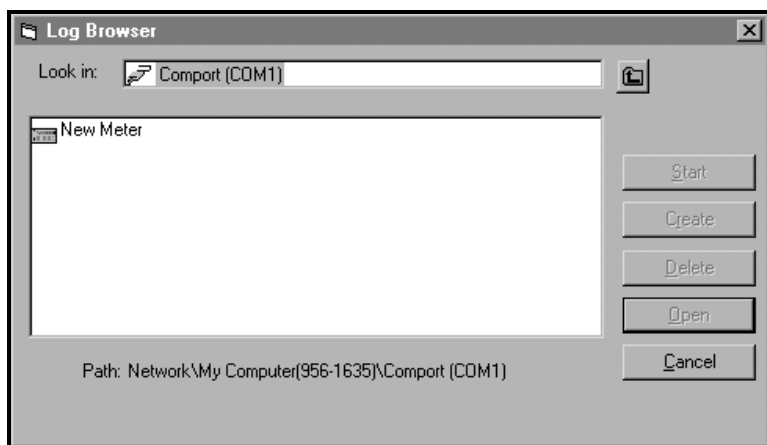

Figure 70: Meter Selection
- b. Double click on the *communication port name* to move to the network level shown in Figure 70.